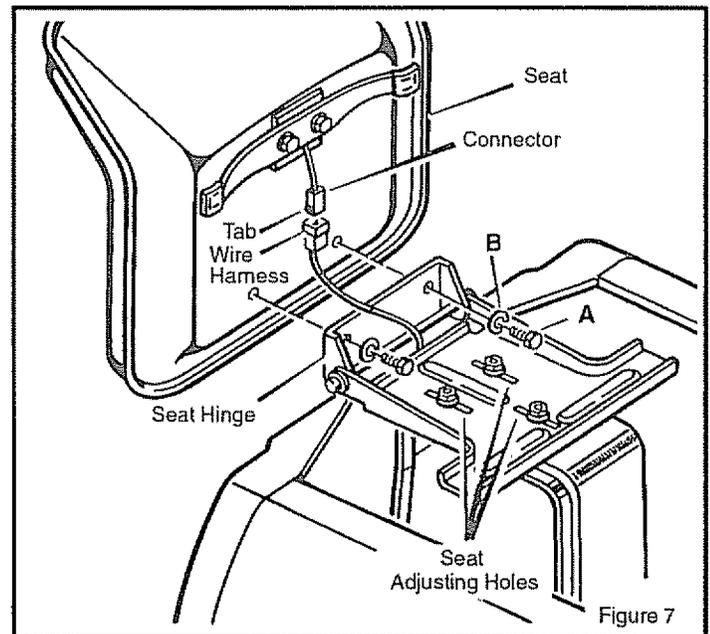

Figure 7
4. Align the holes in the **seat hinge** to the holes in the **seat** (Figure 7). Fasten the **seat** to the **seat hinge** with the fasteners as shown. Tighten the fasteners.